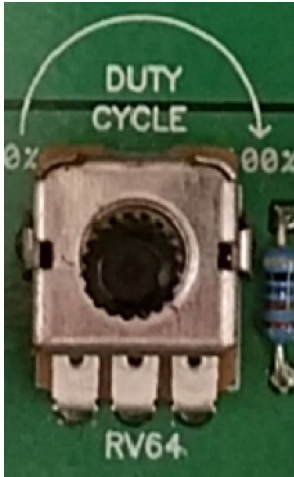

Figure 12: Potentiometer Duty Cycle Adjustment.
10. Adjust the duty cycle of the "PWM" signal by changing the potentiometer's knob shown in Fig. 12. Going clockwise increases the duty cycle from zero to 100%, and going counter-clockwise decreases it.